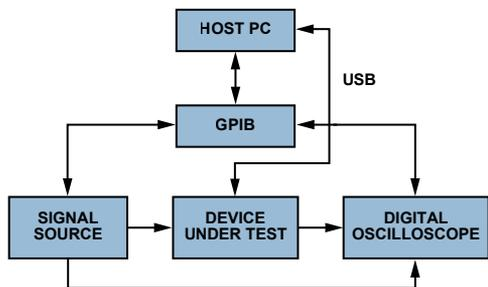

Figure 2. Functional model of the test system.
Q. To qualify a recent design, I had been working on a programmable feedback network and needed to collect hard data to verify the expected behavior. To collect the data, I evaluated the available test equipment and pieced together a crude open-loop measurement system using a general-purpose interface-bus (GPIB) IEEE-488 interfacing card, a simple digital oscilloscope, and an arbitrary function generator (see Figure 2).